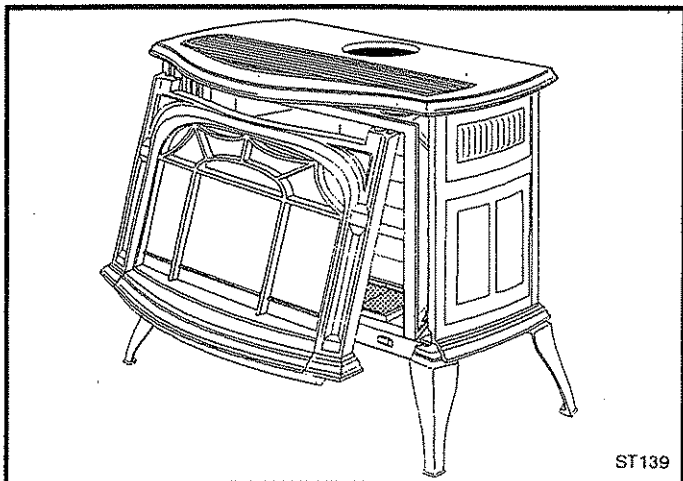

Fig. 12 Remove the Front Plate.
1. Remove the Front Plate by grasping one side and the bottom and lifting the plate up as a unit while swinging the bottom out and away from the stove body. (Fig. 12)